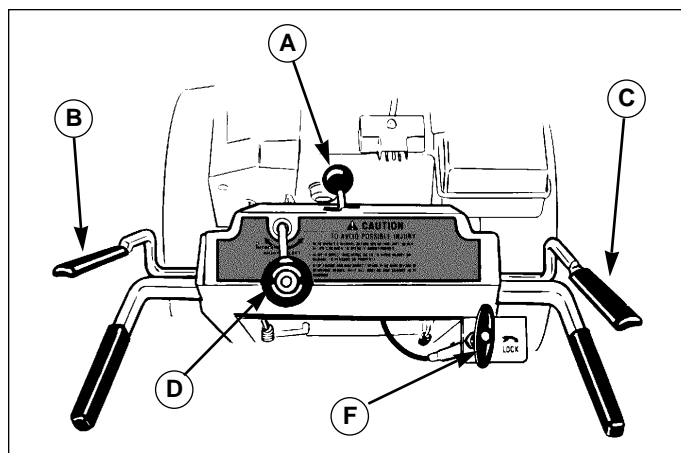
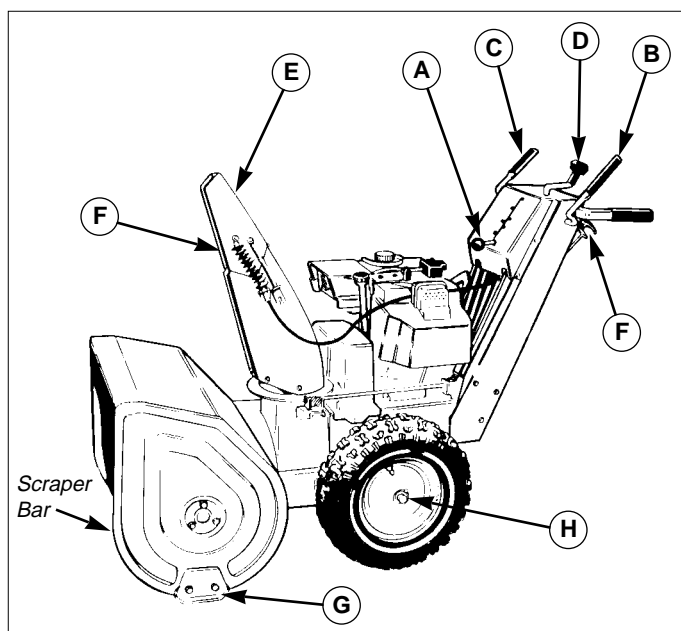

Figure 4. Operator's Control Position
Figure 5. Snowthrower Operating Controls
- A. Speed Selector** - This lever (A, Figures 4 & 5) is used to set the ground speed of the snowthrower. The snowthrower has five forward speeds, 1–5, and two reverse speeds, 1–2. No neutral position or gate is required, since the traction drive design automatically provides "neutral" (no forward or reverse movement), whenever the Drive Control is released.
- B. Traction & Free-Hand™ Control** - This control engages the traction drive as the lever (B, Figures 4 & 5) is depressed, and disengages the traction drive when the lever is released. When BOTH levers are depressed, the Free-Hand™ Control is activated. This allows Auger Engage Control to be released — YET AUGER ROTATION WILL CONTINUE until Free-Hand™ Control is released.
- C. Auger Engage Control** - This clutch lever (C, Figures 4 & 5) engages the auger drive (which throws the snow) as the lever is depressed. Releasing the Auger Engage Control will disengage the auger — **unless the Free-Hand™ control has been activated (See Traction & Free-Hand™ Control above).**
- D. Chute Direction Control** - The Chute Direction Control (D, Figures 4 & 5), allows the discharge chute to be rotated to throw snow in the desired direction. Snow may be thrown at any angle from straight left, to straight forward, to straight right.
- E. Chute Deflector** - Controls the distance snow is thrown. Tilting the Chute Deflector (E, Figure 5) UP provides a higher stream and greater distance, while tilting the deflector DOWN provides a lower stream and less distance.
- F. Chute Deflector Knob OR Remote Deflector Control** - Controls the tilt angle of the Chute Deflector, and allows the discharge Chute Deflector (E, Figure 4) to be locked in the desired tilt position. Note for models without the Remote Deflector Control, the Chute Deflector Knob (F, Figure 5) is located on the Chute Deflector (E, Figure 5).
- G. Scraper Bar Height Control** - The Skid Shoes (G, Figure 5) control the height the scraper bar (located at the bottom of the auger housing). The scraper bar allows smooth surfaces (such as concrete or asphalt driveways) to be scraped clean of snow. On surfaces such as gravel, the scraper bar should be adjusted higher — so that it will not pick up gravel or debris.
- H. Traction Lock Pins** - The traction drive to each wheel can be locked and unlocked with the Traction Lock Pins (H, Figure 5) to permit the unit to "free-wheel," allowing easier manual handling and transport of the snowthrower.